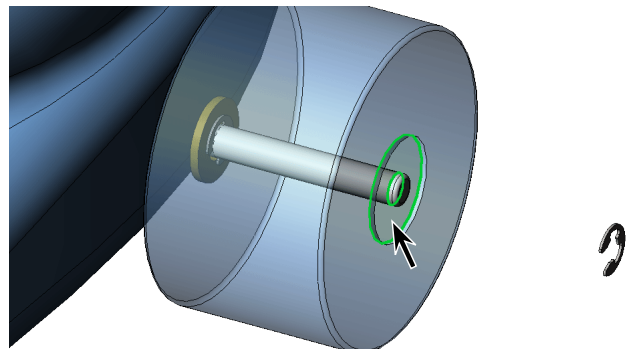

Fig. 31
Step 2. Click **outside bottom face of counter-bore in Rear Wheel**, Fig. 31.